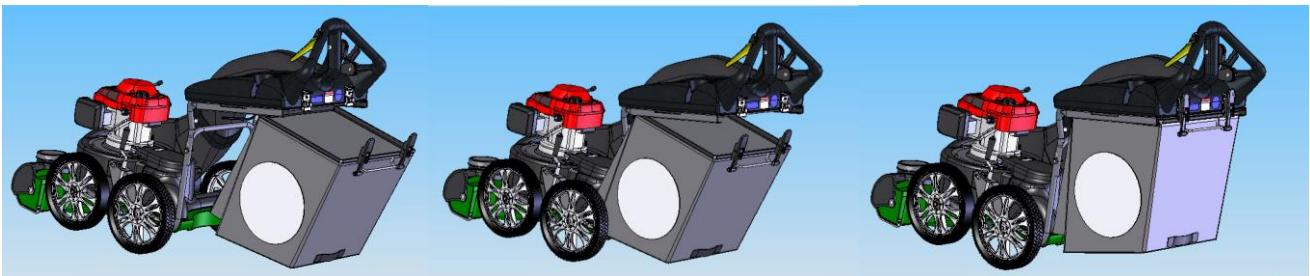

Fig. 7
11. Attach the bag. (See Fig. 7)